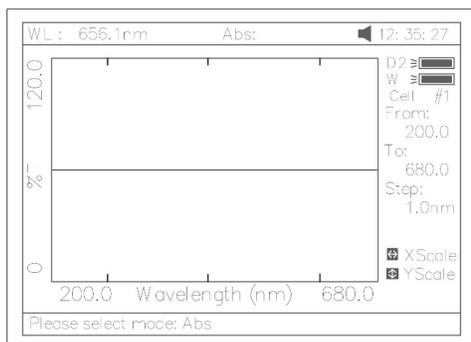

Fig 43
2. Press **【F2】** to select the test mode, “Abs” , “%T” or “E” (Fig 43).